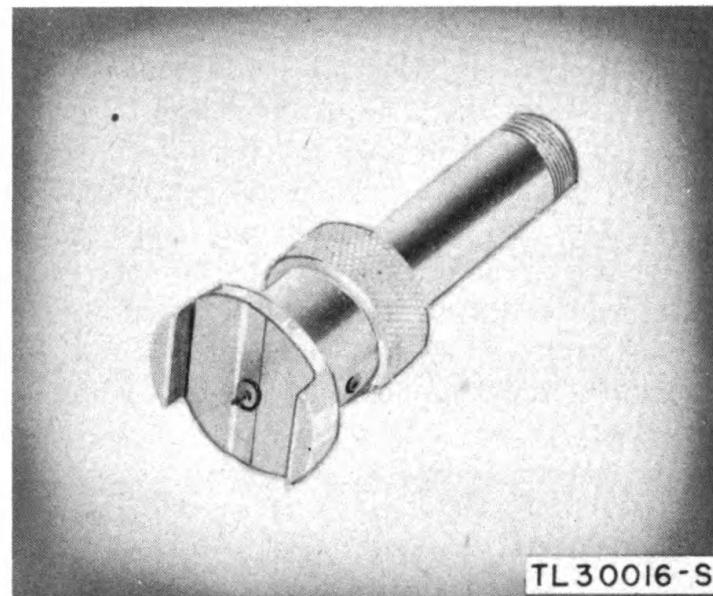

Figure 15. Probe Antenna AT-64/U.
17. PROBE ANTENNA AT-64/U (fig. 15).